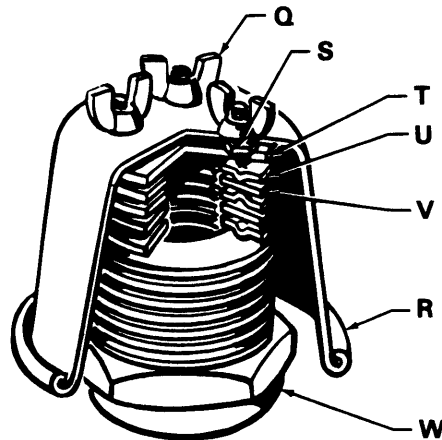

Fig 4
1. Remove the three wing nuts (Q) and the vent hood (R). See Fig 4.
2. Unscrew the three retaining nuts (S).
3. Remove the top plate (T) and the discs (U and V).
5. Alternately, place a plain flat disc (V), then a dimpled disc (U) onto the base (W) until all are installed.
6. Install the top plate (T). Screw on the retaining nuts (S), install the hood (R), and secure with the wing nuts (Q).